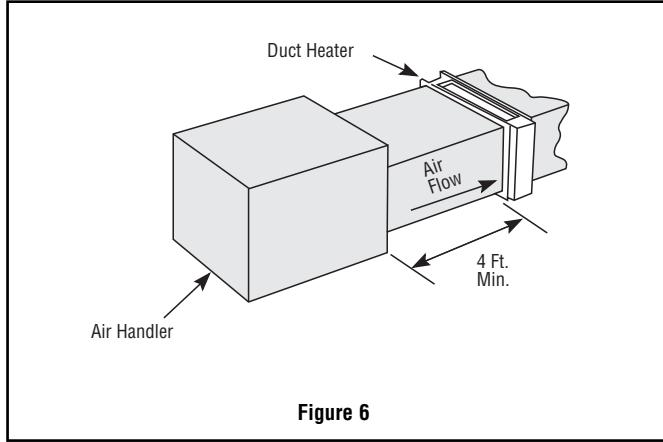

Figure 6
2. Installation near air handler discharge. (Refer to Figure 6).